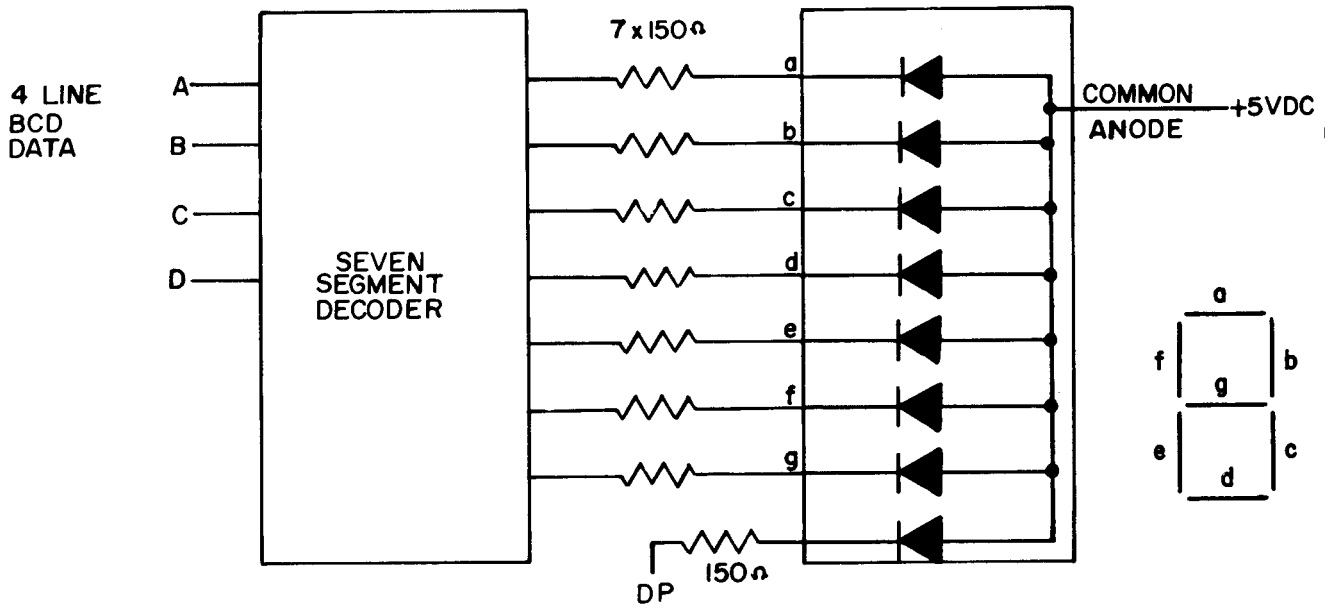

Figure 1-31. Seven-Segment LED Display.
5. Seven-Segment LED Display (5082-7650). This is a large (0.43") red, common anode, seven-segment display with left-hand decimal point. Figure. 1-31 shows the schematic and the connection to drive circuitry. Table 1-4 lists pin functions.